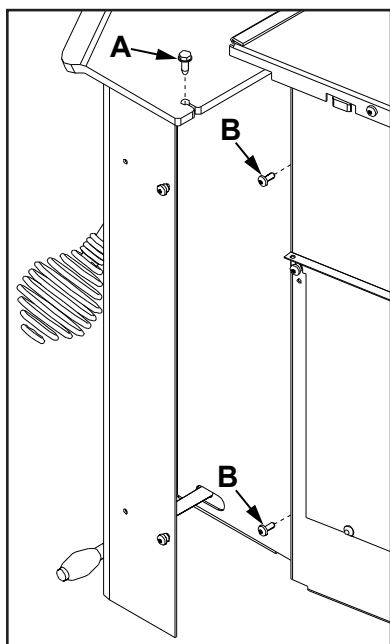

Figure 58: Removal of right pod.
4. Remove the screw, using a $5/16$ " socket or wrench, that goes down through the firebox top into a bent over tab at the top of the shroud (see A in Figure 58).
- b. For the second method (recommended for the right shroud), remove the two (2) T-20 screws that hold the shroud to the unit (see B in Figure 58). Pull the shroud out through the side.